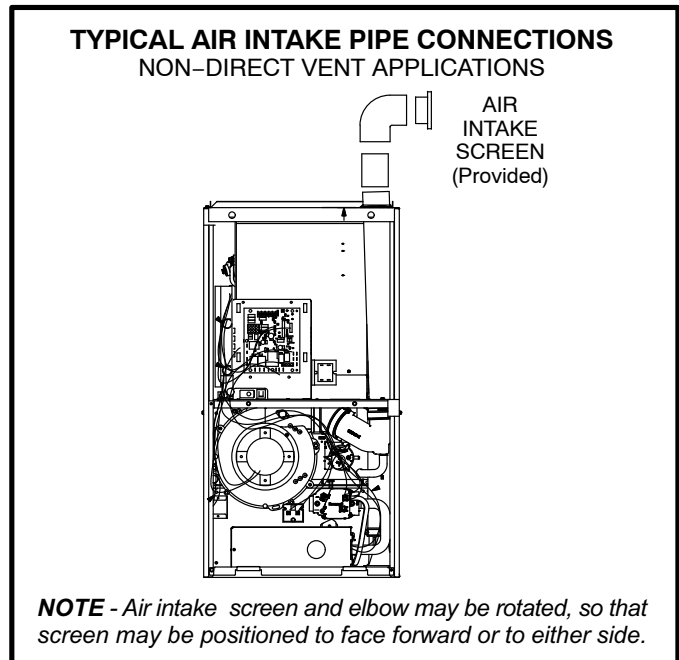

FIGURE 26
- 1 - Use field-provided materials and the factory-provided air intake screen to route the intake piping as shown in figure 26. Maintain a minimum clearance of 3" (76mm) around the air intake opening. The air intake opening (with the protective screen) should always be directed forward, or sideways.